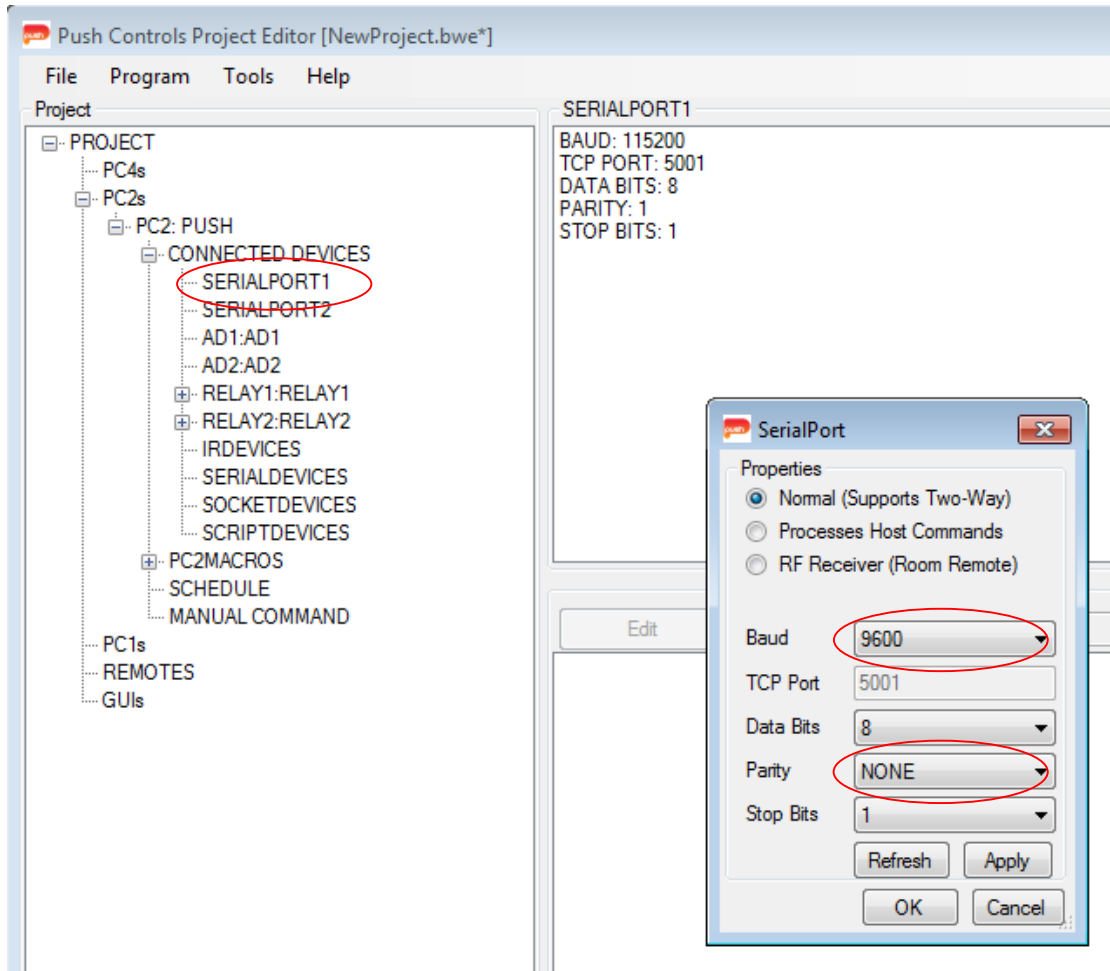

Figure 6 – Configuring the RS232 port on a PC2 or a PC1
- Select the PC1 or PC2 controller. *Refer to Figure 6*